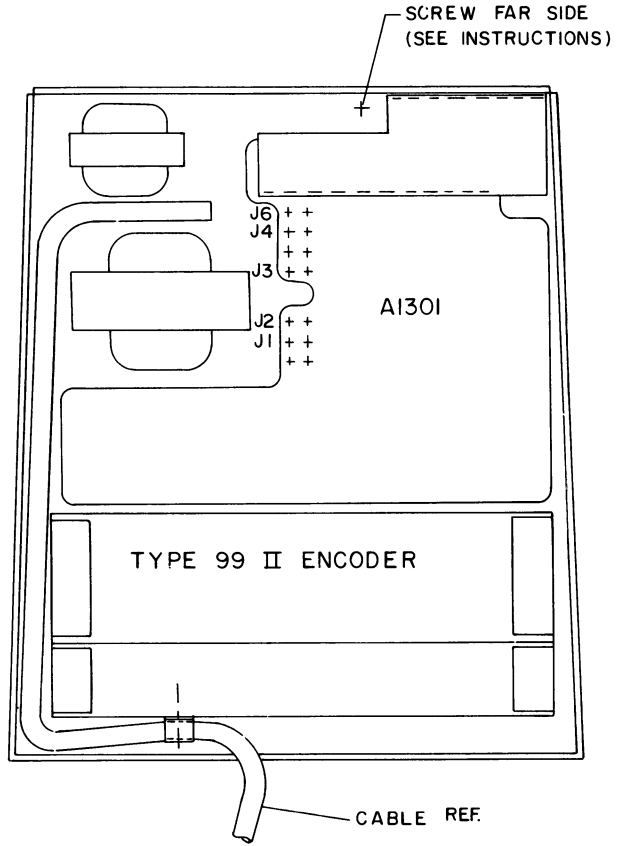

FIG. 3
5. MAKE CONNECTIONS AS SHOWN IN TABULATION. ROUTE WIRES TO TB1101, TB1102 & TB1103 THRU CABLE CLAMPS SHOWN IN FIG. 3, AND IN HOUSING. SPOT TIE TO EXISTING WIRING.
6. CONNECT CABLE FROM TYPE 99 II ENCODER TO MIC-TONE BOARD PER CONNECTION CHART. SEE FIGURE 3 FOR ROUTING OF CABLE INTO TYPE 99 II ENCODER.